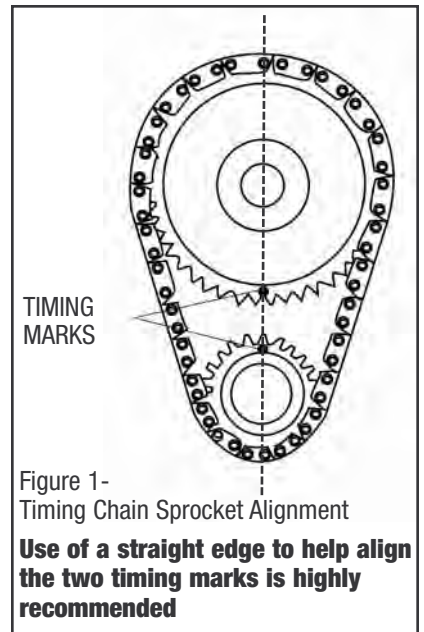

Figure 1-
13. Rotate engine until timing marks are aligned as shown in Figure 1.
CAUTION: Use Edelbrock Performer-Plus True Rolling Timing Chain and Gear Set #7811 (1973-95) or #7820 (1965-72-1/2). Do not use late model timing chain & gear sets that are designed in a retarded position and are not recommended for this camshaft installation. Edelbrock Timing Sets feature three keyways for specific timing selection. Use locking compound material on the bolt threads holding timing gear to cam. Torque to factory recommendations specified in motor repair manual. Install camshaft with timing marks lined up as recommended by factory specifications. **See Figure 1.**
After the cam is installed and timed correctly (see Figure 1), it will be necessary to check each pushrod for correct lifter pre-load.